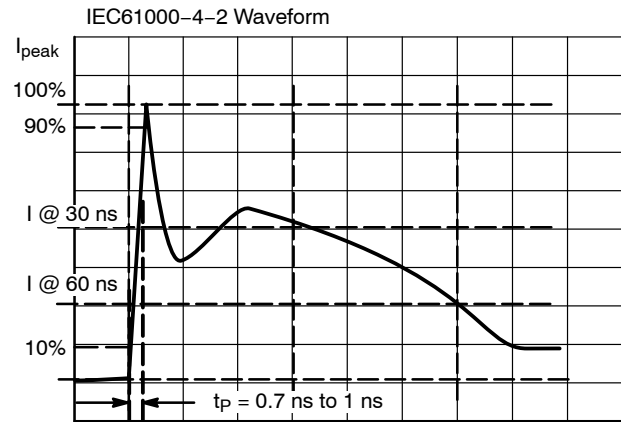

Figure 5. IEC61000-4-2 Spec
4. For test procedure see Figures 5 and 6 and Application Note AND8307/D.